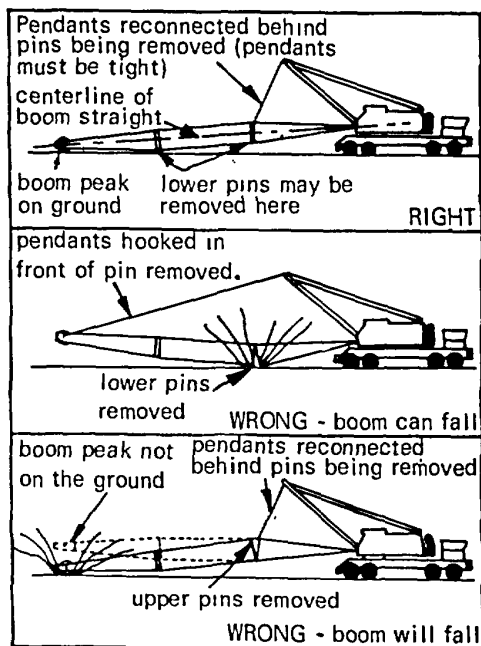

Fig. 32
- 33 **Disassembly of any pin connected boom can be hazardous.** Removing the boom pins without reconnecting pendants behind the pins being removed can cause the boom to fall to the ground. If you are under the boom when it falls, you may be killed. Never remove boom pins unless boom peak is resting on the ground, and pendants are reconnected as shown in Fig. 32.